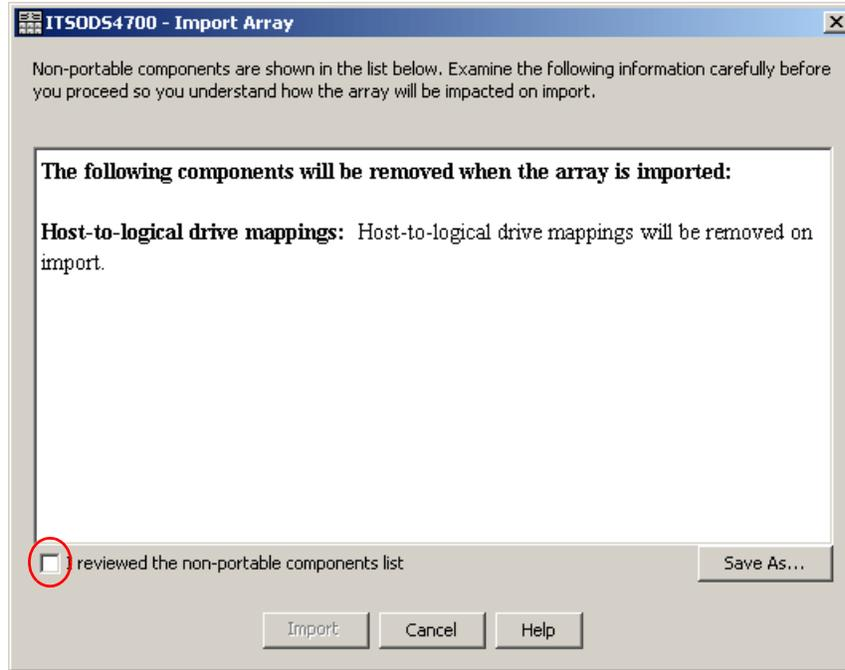

Figure 12-42 Import Array warnings
4. If the controller detects any condition that will interfere with the current configuration, it lets you know. In Figure 12-42 the drives were exported without clearing the mapping information. If the condition detected is more critical, *stop* here. It is better to go back to the source DS4000 to solve the issue. When you are ready, check the **Reviewed the non-portable components list** check box and click **Import** to proceed.